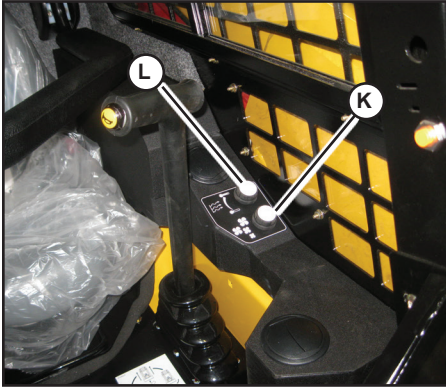

Fig. 12 - Heater Controls
1. Fan Speed Control Knob (K, Fig. 12): Controls the fan speed and turns the heater system on or off.
2. Temperature Control (L, Fig. 12): The rotary knob regulates the temperature of the heated air. Rotate clockwise to increase the temperature; counterclockwise to decrease the temperature.